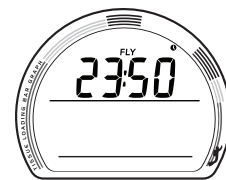

Fig. 98 - FLY
**FLY**, information includes (Fig. 98):